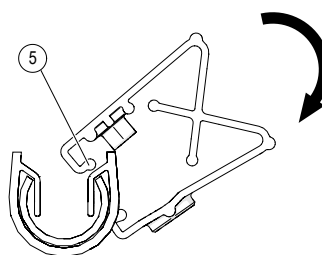
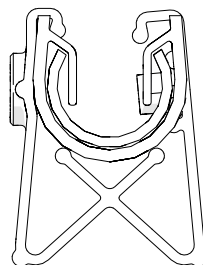

Fig. 71: Clip on the anchor point
Fig. 72: Anchor point is clipped (end position)
- Clip the pins of the anchor points into the hole (see Fig. 71 and Fig. 72).